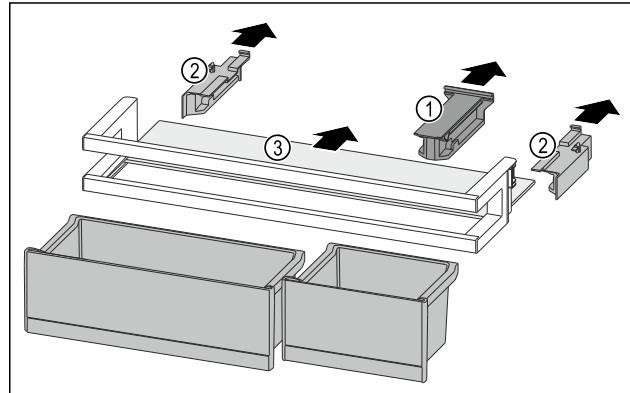

Fig. 88
- ▶ Pull off the retaining part *Fig. 88 (1)*.
- ▶ Pull off the side part *Fig. 88 (2)*.
- ▶ Remove the shelf *Fig. 88 (3)*.